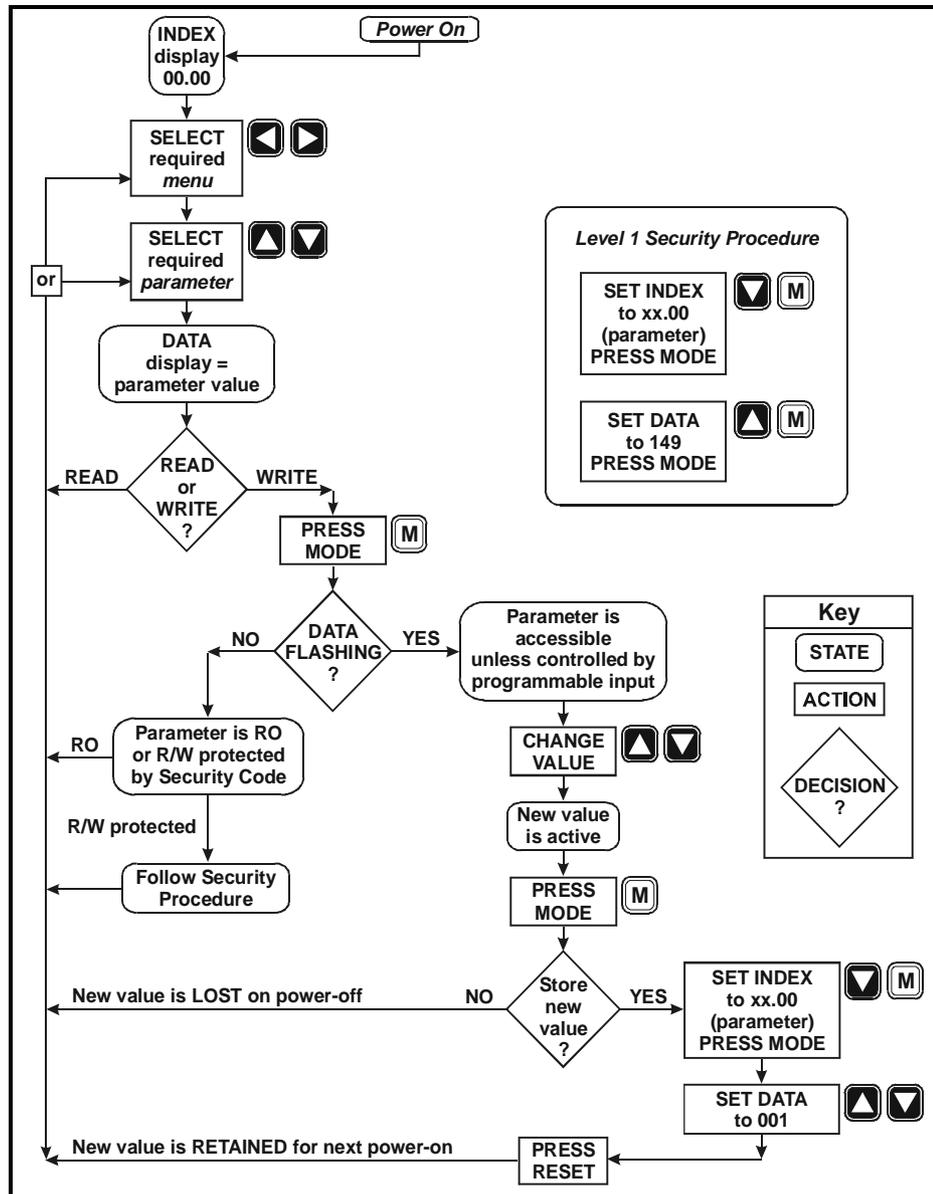

Figure 8-1 Adjustment of parameters and level 1 security
The procedure for selecting and changing a parameter is shown in Figure 8-1, described in the following section, and also on the keypad itself.
8.2.2 Level 1 Security to access the Visible RW Parameters (Figure 8-1)